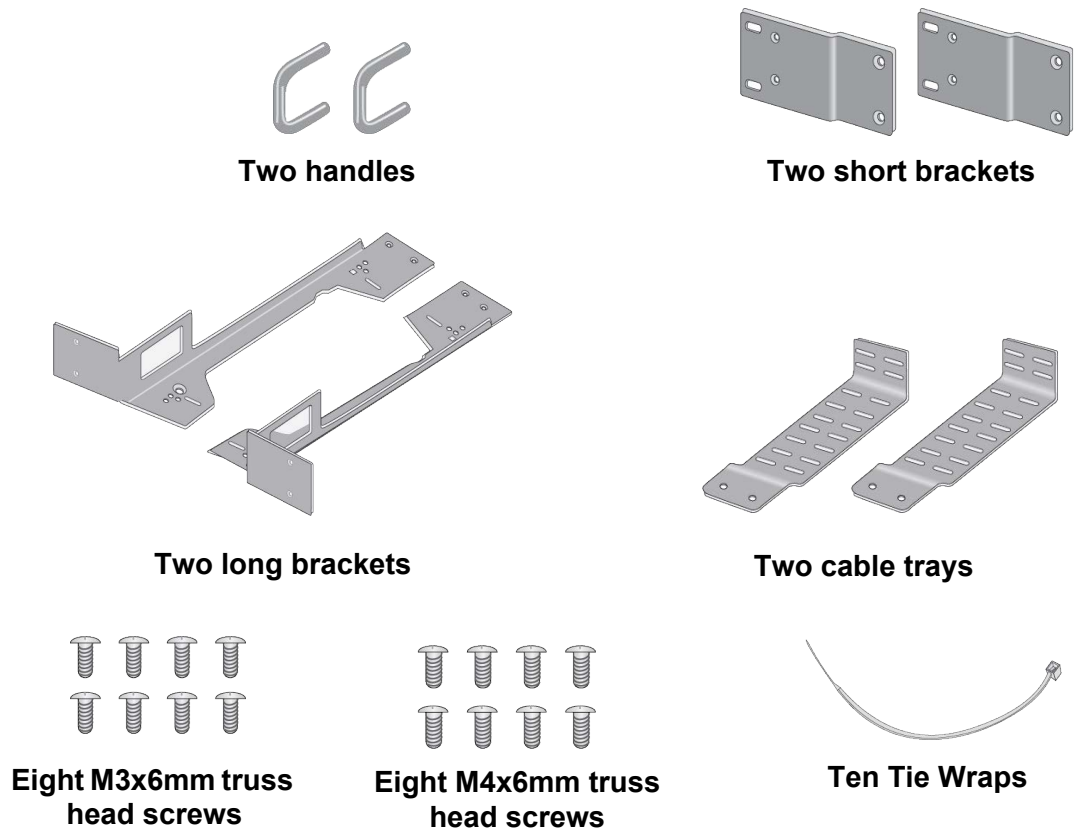

Figure 19. RKMT-J05 Equipment Rack Brackets Kit for the x330-10GTX Switch
Installing the x330-10GTX Switch in a standard 19-inch equipment rack requires the RKMT-J05 brackets kit. Refer to Figure 19. For instructions, refer to Chapter 3, “Installing the x330-10GTX Switch in an Equipment Rack” on page 63.
2. Unpack the RKMT-J05 equipment rack brackets kit and verify the contents. Refer to Figure 19 on page 55.